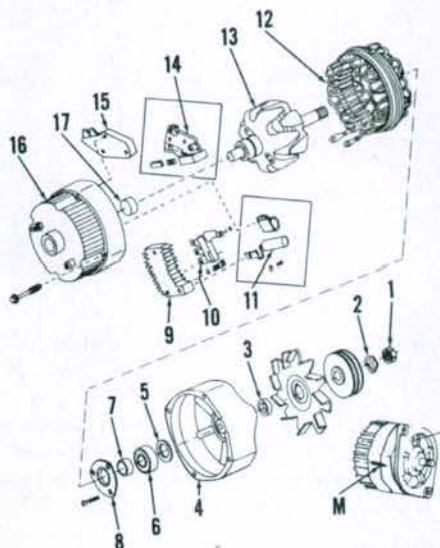
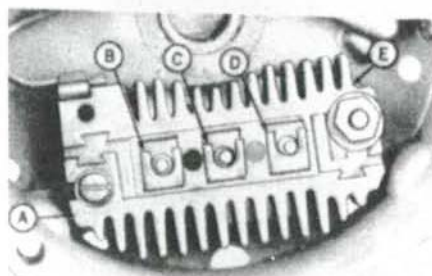

Fig. 101—Exploded view of Delco-Remy alternator with internal mounted solid-state regulator. Note match marks (M) on end frames.
Fig. 105—Bridge rectifier test points, refer to text.
102. OVERHAUL. To disassemble the alternator, first scribe matching marks (M—Fig. 101) on the two frame halves (4 and 16), then remove the four through-bolts. Pry frame apart with a screwdriver
The rectifier bridge (Fig. 105) has a grounded heat sink (A) and an insulated heat sink (E) that is connected to the output terminal. Connect ohmmeter to the grounded heat sink (A) and to the flat metal strip (B). Then reverse the ohmmeter lead connections. If both readings are the same, the rectifier bridge is defective. Repeat this test between points A and C, A and D, B and E, C and E, and D and E. Capacitor (11—Fig. 101) connects to the rectifier bridge and grounds to end frame, and protects the diodes from voltage surges.
Brushes and springs are available only as an assembly which includes brush holder (14—Fig. 101). If brushes are reused, make sure all grease is removed from surface of brushes before unit is reassembled. When reassembling, first install regulator and then brush holder, springs and brushes. Push brushes up against spring pressure and insert a short piece of straight wire through hole in brush holder and through end frame to outside. Be sure that the two screws
Remove and inspect ball bearing (6—Fig. 101). If bearing is in satisfactory condition, fill bearing $\frac{1}{4}$ full with Delco-Remy Lubricant No. 1948791 and reinstall. Inspect needle bearing (17) in slip ring end frame. This bearing should be renewed if its lubricant supply is exhausted; no attempt should be made to relubricate and reuse the bearing. Press old bearing out toward inside and press new bearing in from outside until flush with outside of end frame. Saturate felt seal with SAE 20 oil and install seal.